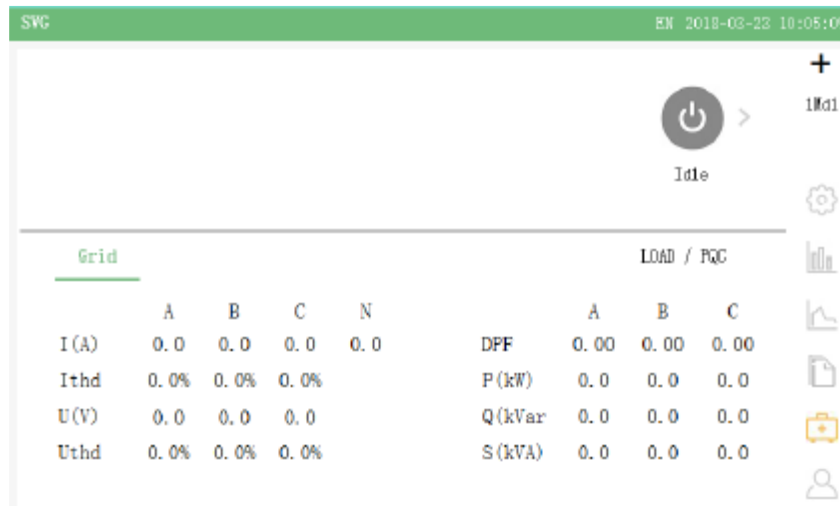

Figure 3-1 Touch screen boot interface
- The start-up display interface of the touch screen is shown in Figure 3-1. The value of "Communication" in the upper right corner of the boot interface displays "0". Click the buttons "curve query", "real-time data", "fault record", "function setting", "parameter setting", "passive setting" to view the data information of the corresponding interface respectively. Function setting, parameter setting and passive setting interface need permission to enter.